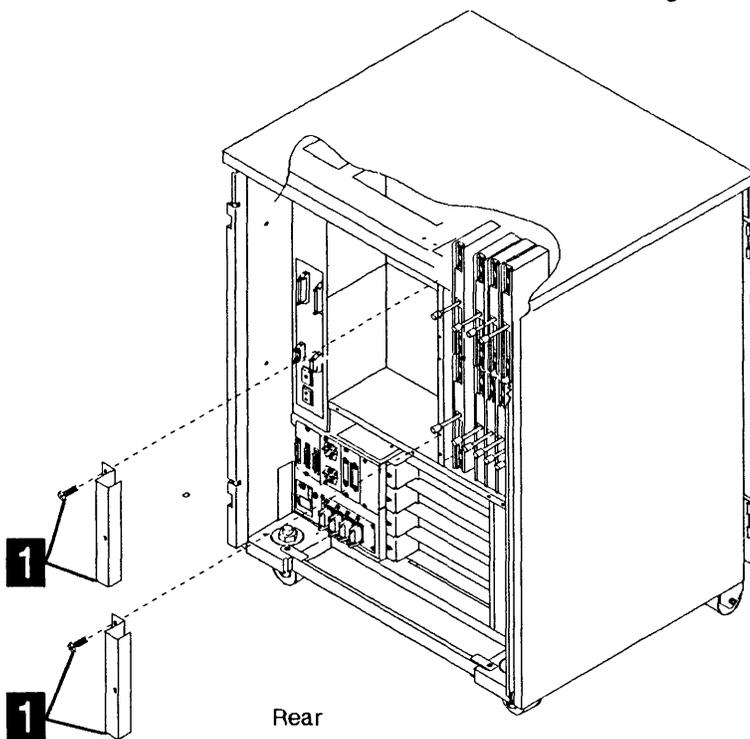

Figure 4-112. SMUX Cover
6. Take away the SMUX covers. Refer to Figure 4-112 (4 screws must be removed **1**).
9. Refer to Figure 4-112 on page 4-82, then install the SMUX cover with 2 screws **1**.